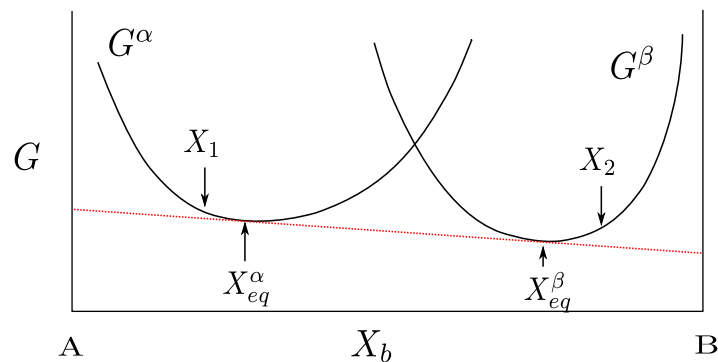

Figure 4.2: Free energy curves for a model A/B alloy.
5) Consider two binary alloys with compositions $X_b = X_1$ and $X_b = X_2$, shown in Figure 4.2 along with the free energy curves for α and β phases formed by this alloy. Draw the composition profile across the interface shortly after the two alloys are brought into contact with one another, assuming that the interface is in “local equilibrium”, i.e. the interface compositions are given by the equilibrium phase diagram. Describe the direction in which you expect the B atoms to diffuse on each side of the interface.